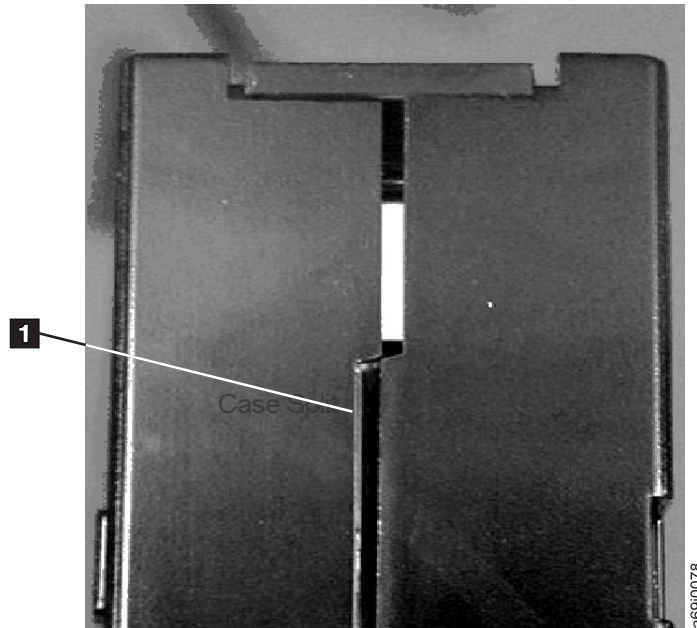
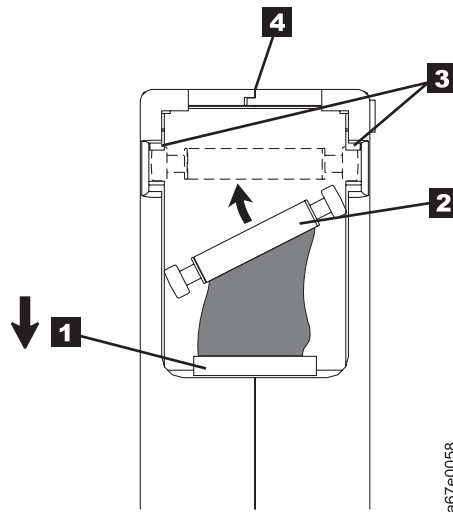

Figure 70. Checking for gaps in the seams of a cartridge
Figure 72. Placing the dislodged leader pin into the correct position. The cartridge door is open to show the leader pin.
- Inspect the rear of the cartridge (the part that loads first into the cartridge load compartment) and ensure that there are no gaps in the seam of the cartridge case (see **1** in Figure 70 on page 172 and **4** in Figure 72 on page 175). If there are gaps in the seam (see Figure 70 on page 172), the leader pin may be dislodged. Go to “Repositioning or Reattaching a Leader Pin” on page 174.
Example: Split Cartridge Case (see Figure 70 on page 172)
1. Slide open the cartridge door (**1** in Figure 72) and locate the leader pin (**2**) (you may need to shake the cartridge gently to roll the pin toward the door).